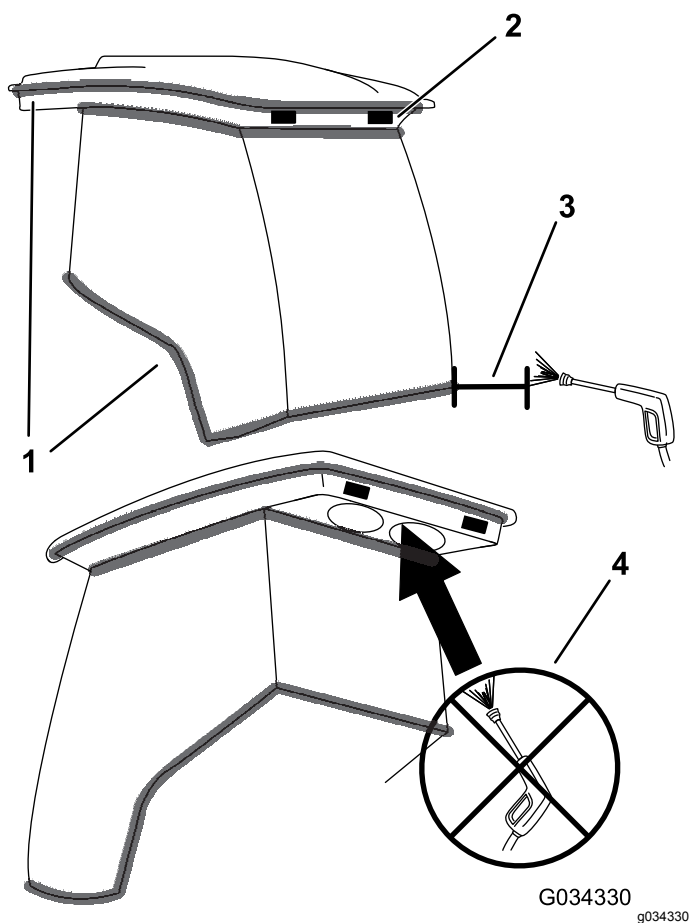

Figure 120
**Important:** Use care around the cab seals and lights (Figure 120). If you are using a pressure washer, keep the washer wand at least 0.6 m (2 ft) away from the machine. Do not use the pressure washer directly on the cab seals and lights or under the rear overhang.